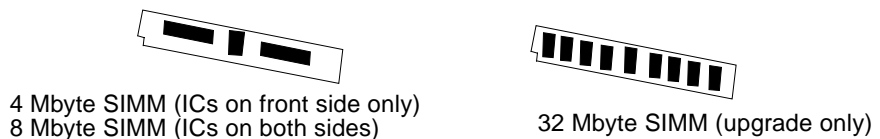

FIGURE 3-10 SIMMs
Remove the SIMMs from front to back. Press the small latch on each side of the SIMM that releases it from the slot (FIGURE 3-10).
- a. **Remove first two SIMMs from slot D and slot C (FIGURE 3-10) and set them aside.**
The SIMM is keyed and will fit only one way (notch in lower left corner) (FIGURE 3-10).